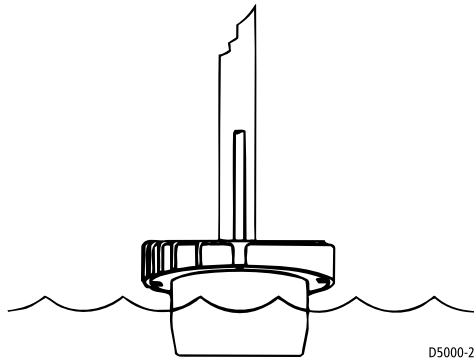

Figure 2-18: Establishing a Performance Baseline
3. Tape the transducer to a pole with the cable side up. Hold it over the side of the boat with the active face submerged in the water (see Figure 2-18). Keep the active face of the transducer parallel to the surface of the water.